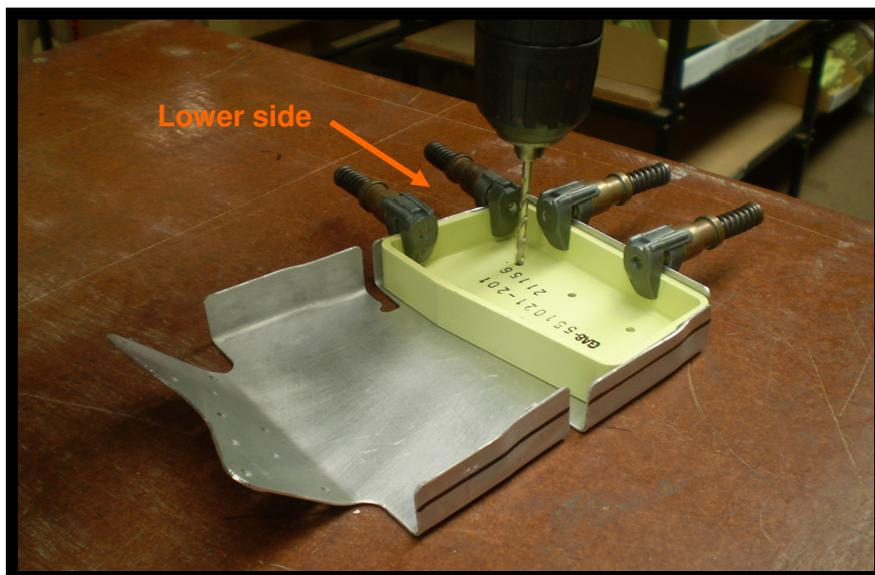

Figure 6
5.1. The Stiffener Brackets (GA8-551021-201 LH and 202 RH) may be nested into each rib at this time. Position each bracket into the lower rear corner of each Rib 1 Section as tightly as possible (cleco clamps are suggested) ensuring that the long edge of the bracket is on the lower side of the rib (i.e. the side where the Stabiliser Mounting Channel is) as shown below. Drill the 5 holes through the rib and debur all holes. See Figure 6.